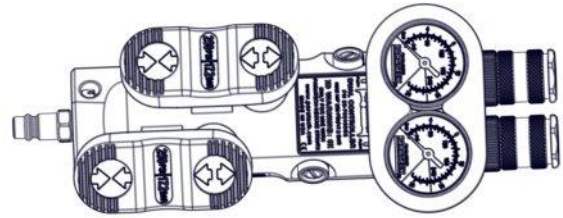

Figure 1-32A. Dual Deadman RSS Controller G2
- c. **Dual Deadman RSS Controller G2.** The Dual Deadman RSS Controller G2 (Figure 1-32A) is a single input/dual output controller incorporating quick disconnect hose fittings and dual rocking levers to apply "UP" and release "DOWN" air pressure to either one or two struts. Two gauges are provided to monitor the air pressure provided to either one or two strut(s) and a 250 psi (17.2 bar) relief valve is incorporated to limit the applied air pressure. An adjustable strap permits attachment to the operator.